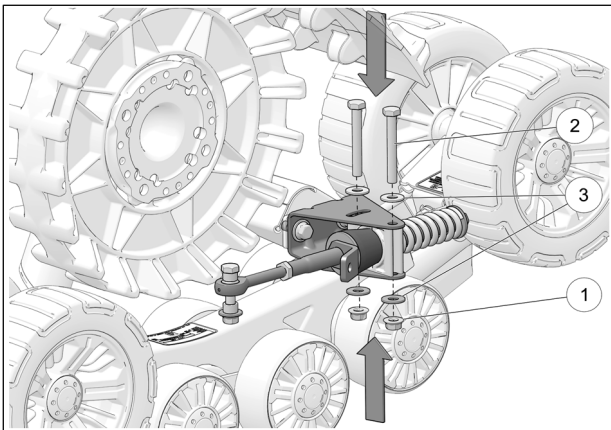

Fig. 15
7. Reinstall bolts (2), washers (3) and nuts (1) to secure anti-rotation arm to front Track system. See Fig. 15